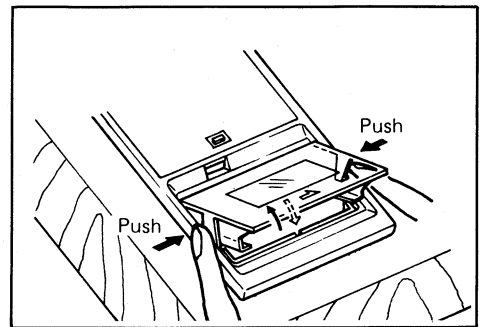

FIG. 2
3. Carefully push stops of cassette cover located on both sides, as shown in Fig. 2. Then cassette cover can now be removed from cassette player/recorder panel.